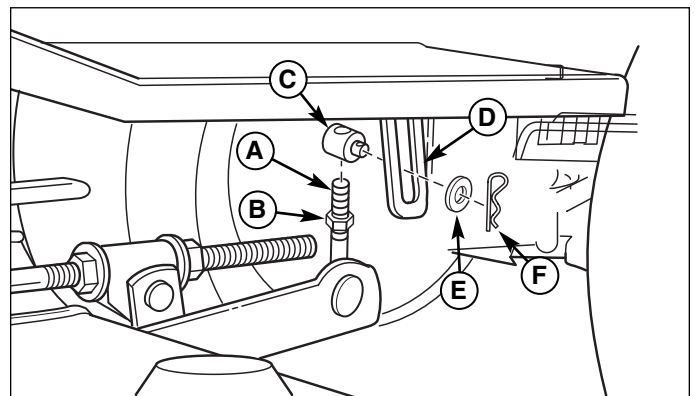

Figure 49. Cutting Height Adjustment
The transport height and ground following ability can be adjusted. Raising the trunnion (C, Figure 49) on the j-hook (A) will adjust the deck into the greatest ground following ability and the lowest transport position, when the deck is lowered. Lowering the trunnion on the j-hook will give the highest transport position and decrease the deck's ground following ability, when the deck is lowered.
1. Loosen jam nut (B, Figure 49).
2. Remove the hair pin (F) and washer (E) from trunnion (C).
3. Remove the trunnion (C), j-hook (A) and jam nut (B) from tractor lift arm (D).
4. Turn trunnion (C) up or down to adjust height.
5. Place trunnion (C), j-hook (A) and jam nut (B) in tractor lift arm (D). Install washer (E) and hair pin (F). Tighten jam nut (B).